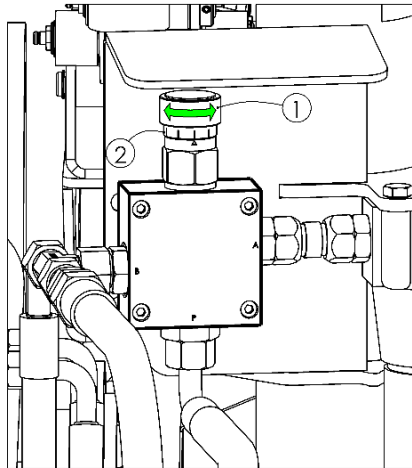

Figure 10. Flow control
The flow control (**Fig. 10**) is located on the front support of the wrapping module and is used for limiting the consumption of oil on the wrapper supply line A and disposing of the excess oil to the discharge line B. To adjust it, use the hand wheel (1) within the scale (2) range of 0 to 10, where 0 refers to full lock of the flow on the supply line, and 10 refers to the flow at the level of ca. 50 l/min. We recommend to set the range on the scale at 7-10.